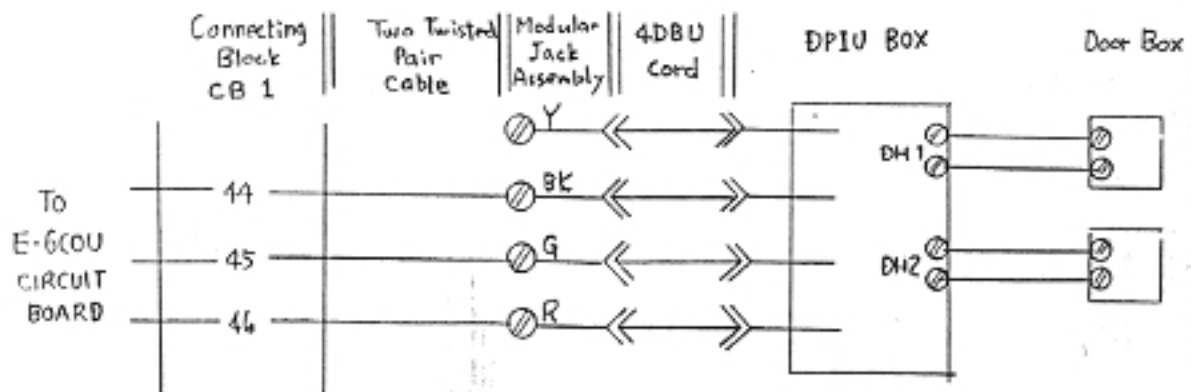

Fig.1-9 Connections for the Door Boxes
- (1) Unplug the power cord from the ac receptacle.
- (2) Disconnect the CO line No.10.
- (3) Remove the cover of DPIU BOX.
- (4) Mount the DPIU BOX on the plywood backboard.
(5) Mount the modular jack assembly between the connecting block CBI to the KSU.
(6) Run the two two twisted pair cable from the modular jack assemblies of the step(5) to the connecting block CBI.
(7) Terminate one end of the two twisted cable on the jack assemblies and the other end of it on the connecting block CBI in accordance with Fig.1-9.
(8) Connect jack CNJ in the KSU, which is labeled "PFU" in the lefthand of the KSU, with jack CNJ on the DPIU BOX, using the two-conductor modular power cord furnished with the unit. If the power failure transfer units were provided, connect jack CNK on the PFU with jack CNJ on the DPIU BOX using the power cord.
(9) Connect the one pair cord between terminals DH1 or DH2 in the DPIU BOX and door boxes.